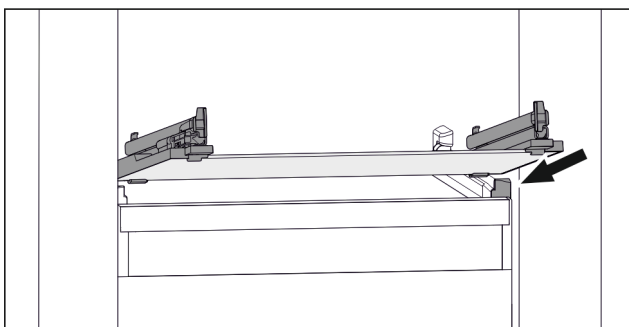

Fig. 98 Example illustration of glass shelf
- ▶ Position glass shelf at an angle behind the stoppers. (see *Fig. 98*)